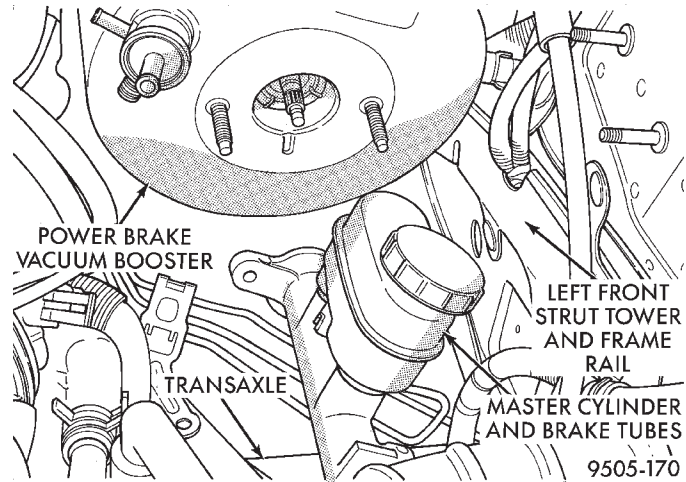

Fig. 61 Master Cylinder Assembly Positioned For Booster Removal
(9) Without removing the brake tubes from master cylinder, remove it from the power brake vacuum booster. Then carefully lower master cylinder and brake tubes as an assembly until it is positioned on top of the transaxle (Fig. 61).